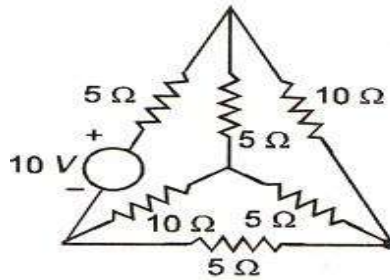

Figure:1
b) For the network shown in figure1, obtain the incidence matrix and determine the relationship between loop and branch currents. [6+9]